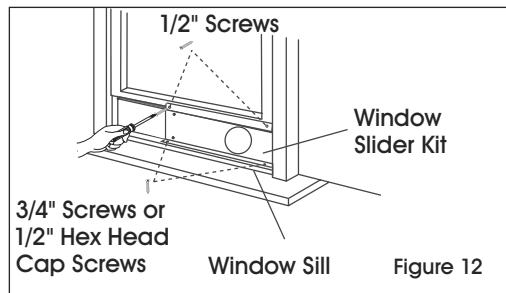

Figure 12
4. Close the lower sash securely against the window slider kit. (See Figure 12)
5. Drive two 1/2" screws to secure the window slider kit to the lower sash. (See Figure 12)
6. Secure the window slider kit to the window sill. (See Figure 12)